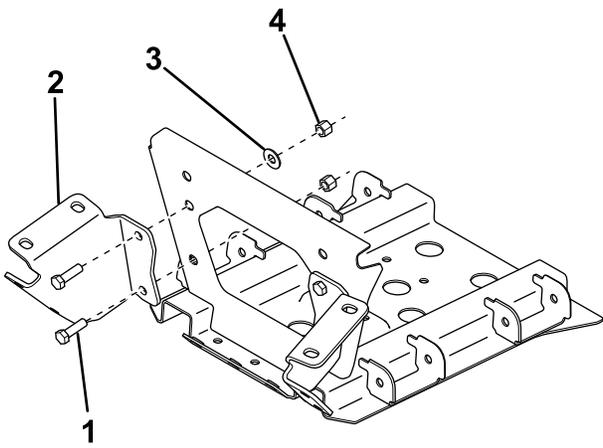

Figure 2
4. Secure the support mounts to the vehicle frame using 4 bolts (3/8 inch), washers, and locknuts (Figure 2).